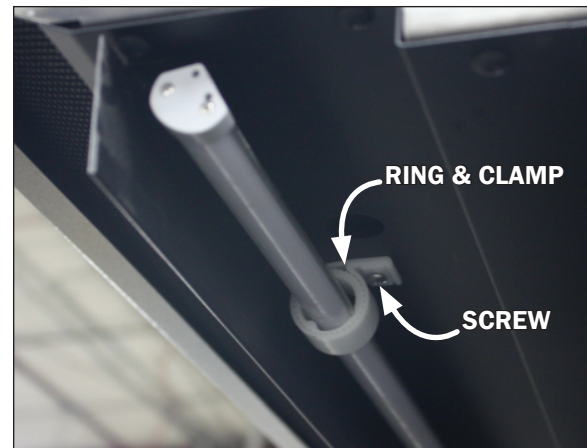

Fig. 6 LED light & ring / clamp
2. Remove the screws from the light clamps (Fig. 6) while keeping ahold of the light. Once the screws are removed the light rod will come away from the case with the clamps still holding to the light.